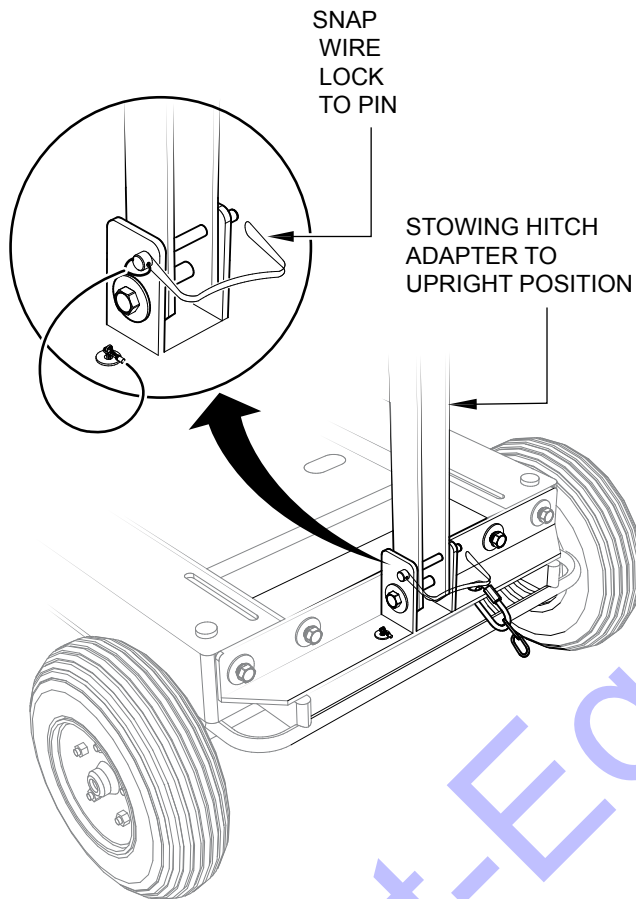

Figure 5. Stowed Hitch Adapter
1. After towing the GB43SC, make sure that the hitch adapter is stowed in the upright position. See Figure 5.